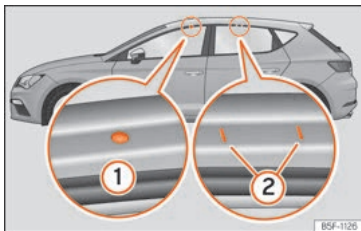

Fig. 195 Leon: attachment points for the roof railings for the roof carrier system.
The front and rear attachment points ① and ② are only visible when the doors are open »» Fig. 195.